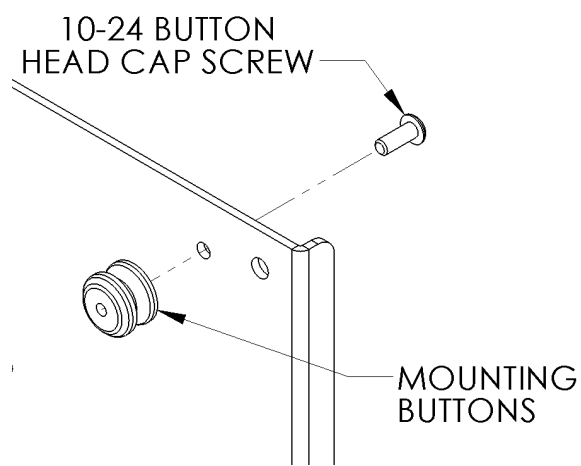
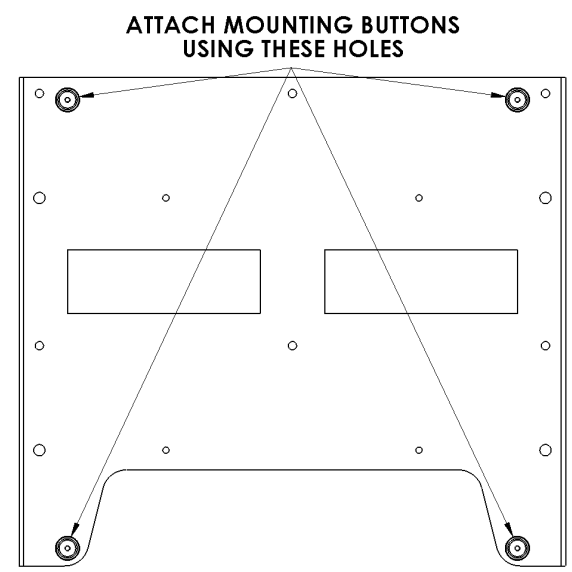

Figure 2
Figure 3
- Using a 10-24 button head cap screw inserted from back side of bracket, secure mounting button, with chamfered hole of mounting button (larger surface) facing bracket (four places) (see Figure 2 & Figure 3).